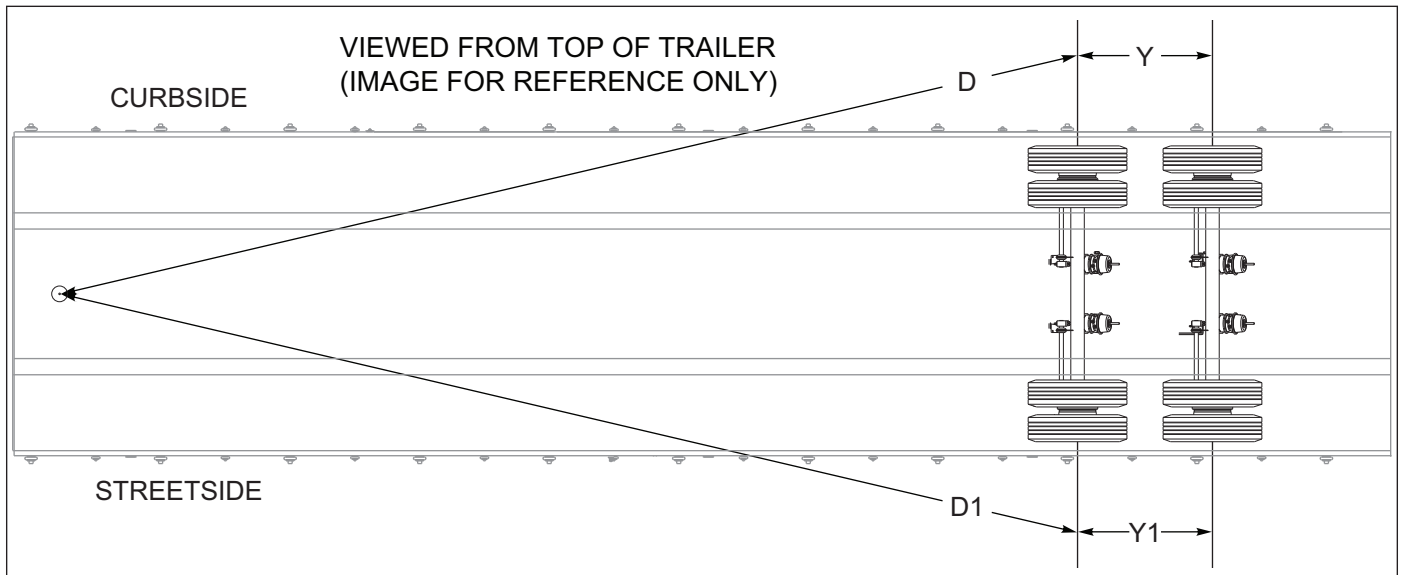

Figure 4-14: Checking Axle Alignment
5. Measure **Curbside (D)** from the plumb bob to the 1st axle center. Measure **Streetside (D1)** from the plumb bob to the 1st axle center. **Curbside (D)** should be about 1/8 in (3.18 mm) shorter than **Streetside (D1)**, *See Figure 4-14*.
2. Measure from 1st axle center to the trailer 2nd axle center on the curbside then the streetside. Measurements should be the same. Use **(Y)** and **(Y1)** as reference, *See Figure 4-14*.